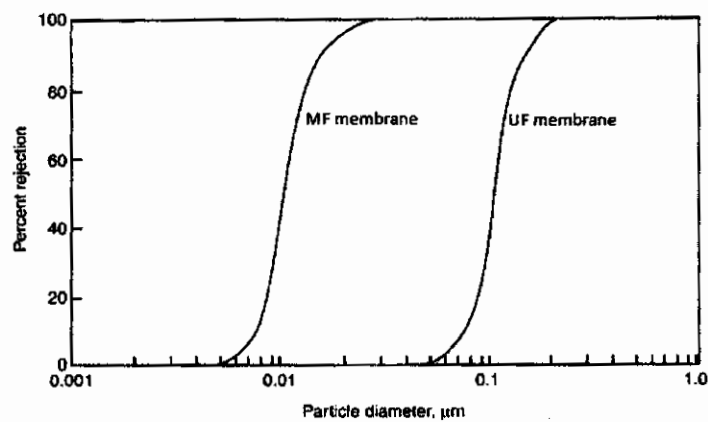

Figure Q5-1: Percent rejection of MF and UF membranes
- 5D.** According to the information provided on the percent rejection for MF and UF membranes in Figure Q5-1 shown below, determine the retention ratings of i) MF membrane ii) UF membrane.